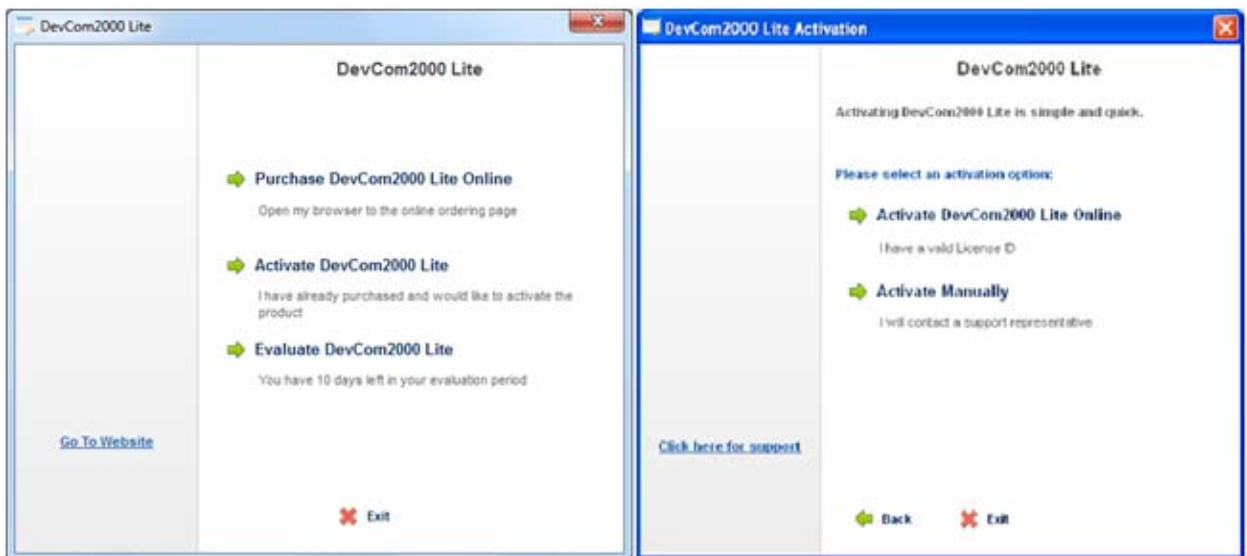

Figure 1 Initial Download Screen
| Figure 1 Initial Download Screen | 5 |
3. Click Activate DevCom2000 Lite Online (See Figure 1)